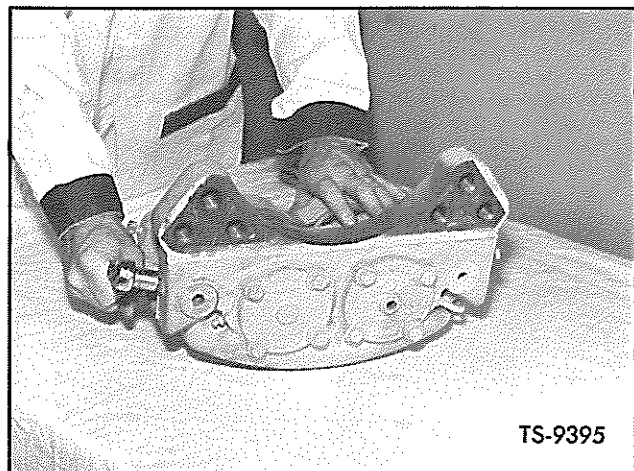

Fig. 31. Reinstall Locking Bolts
25. Reinstall locking bolts in torque plate. Make sure the locking bolt is aligned with the groove in the retaining pin so that it may perform its function. See Figure 31.